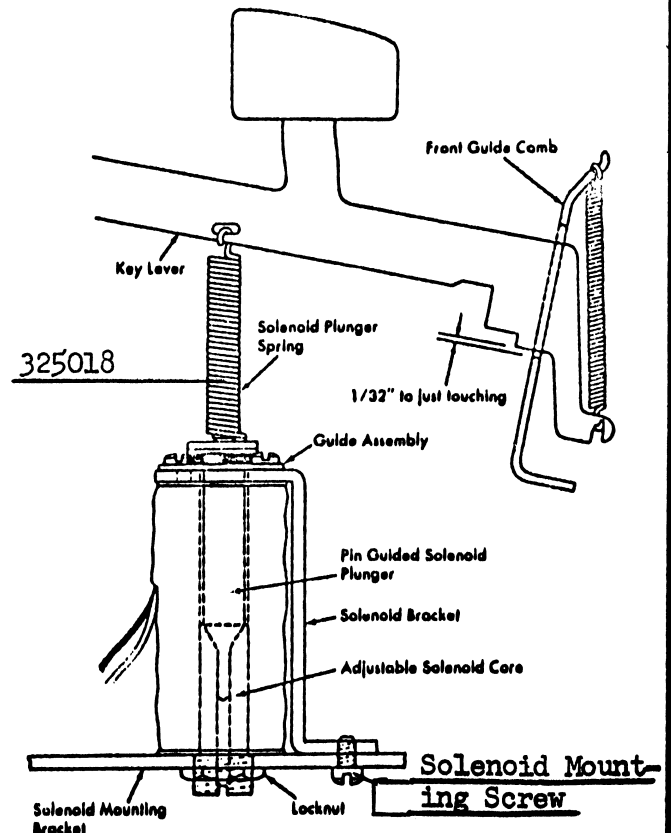

Fig. 6 Solenoid Plunger
2. PLUNGER SOLENOIDS (Fig. 6, Page 7) These can most easily be cleaned by removing the solenoid-plunger-spring from the key-lever. Thereafter it is easy to pull plunger out of the solenoid. Clean and remove oil and grease from plunger and inside solenoid. While it might appear that lubricating the solenoid will free the solenoid, the effect only solves the problem for a short time. **OIL OR GREASE COLLECTS DUST!**